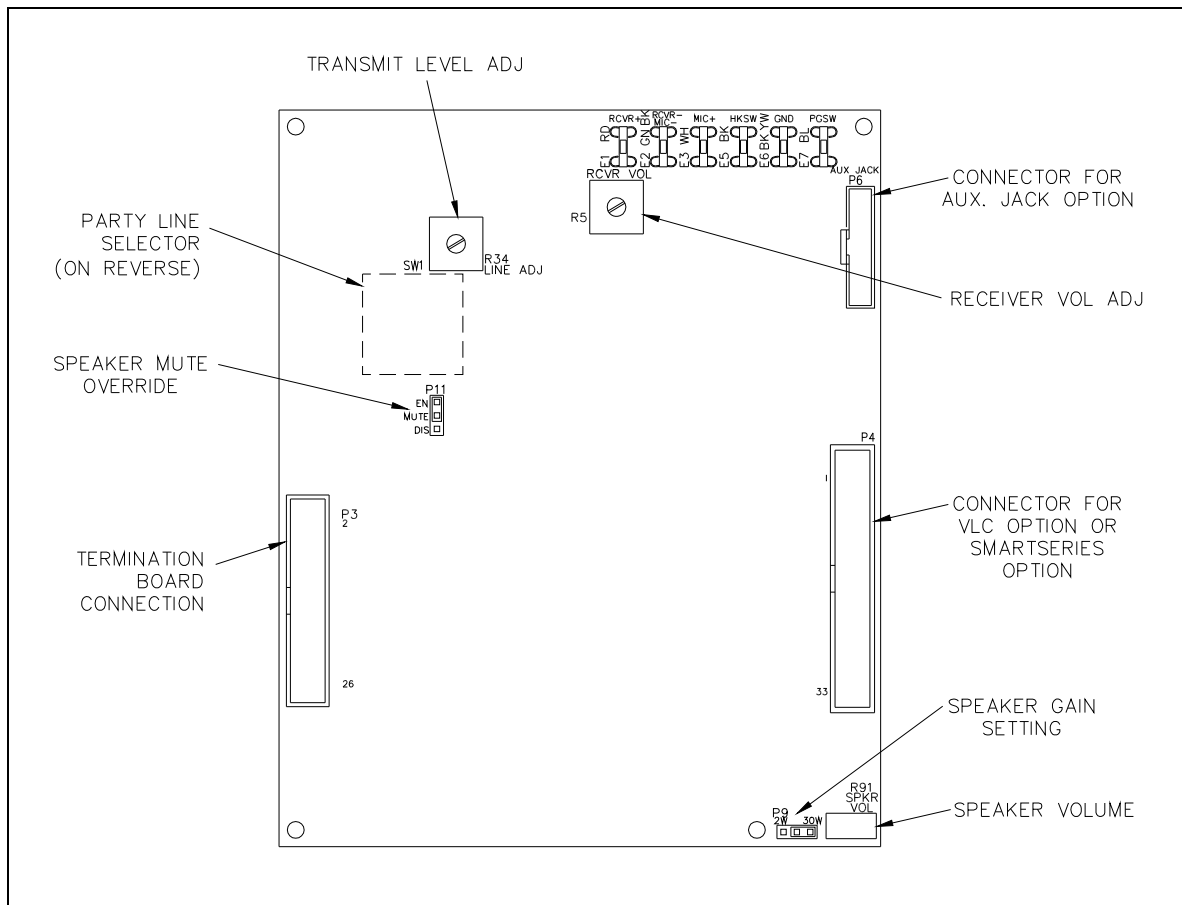

Figure 6. No. 69557 Series Main PCBA
The station can mute the speaker amplifier during page operation to eliminate feedback. Adjust jumper P11, if necessary, to mute the local speaker when paging from that station (see Figure 6)
P9 sets the maximum speaker output level (see Figure 6).
Use the transmit-level potentiometer, R34, to adjust the signal level from the handset or optional auxiliary headset microphone to the page or party lines (see Figure 6).
Use the receiver volume potentiometer, R5, to adjust the signal level to the handset receiver from the page or party lines (see Figure 6). This does not adjust the signal level to the optional auxiliary headset.
Use the speaker volume potentiometer, R91, to adjust the signal level to the speaker from the page line (see Figure 6). The default setting is 4 watts for an 8-ohm speaker and 2 watts for a 16-ohm speaker.
1. Turn the speaker volume potentiometer, R91, (on the main PCBA) fully counterclockwise (see Figure 6).
3. Adjust the speaker volume potentiometer, R91, to the desired output (see Figure 6).
2. Remove all jumpers on the main PCBA P4 connector (see Figure 6).
3. Adjust the speaker volume potentiometer, R91, (on the main PCBA) to the desired output (see Figure 6).
1. Turn the speaker volume potentiometer, R91, (on the main PCBA) fully clockwise (see Figure 6).